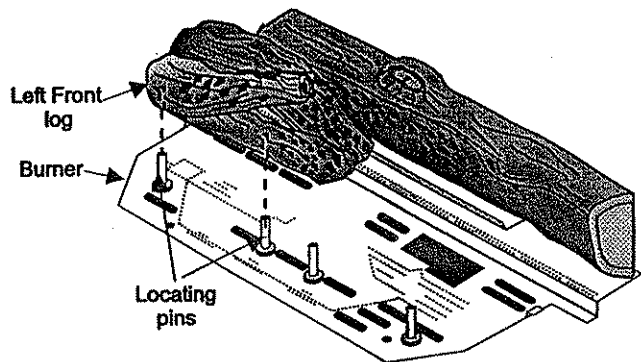

Figure 2
- 3) Place the left front log, carefully sliding it down onto the left pins of the front burner. See figure 2.
- 3) Close the door. The latch plate must be centered around the alignment pin. See figure 2. If the latch plate interferes with the corner of the stove you may want to angle the plate slightly so the door closes easier.